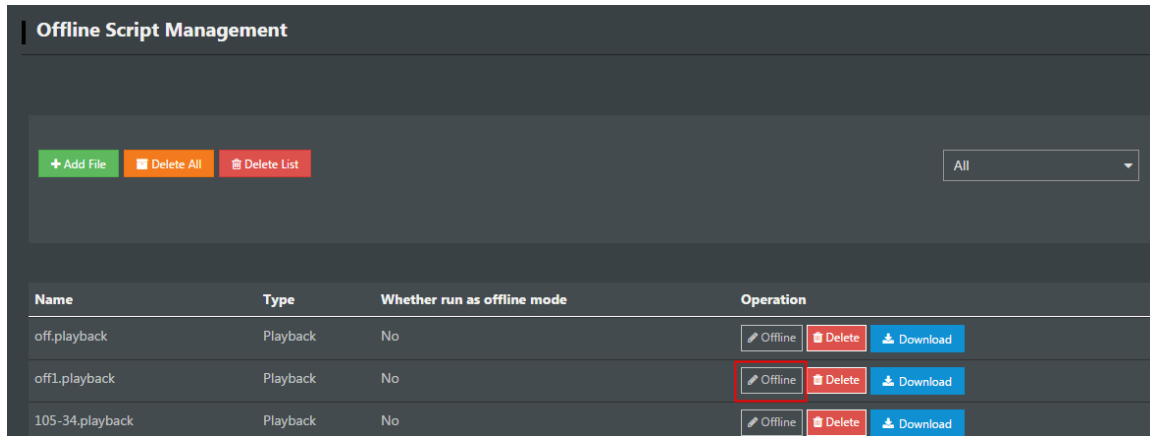

Figure 6.36 Status of the uploaded files
Step 8 Select the uploaded files that need to be offline executed on the **Offline Script Management** page, and click **Offline** to make the files in the offline mode, as shown in Figure 6.36.